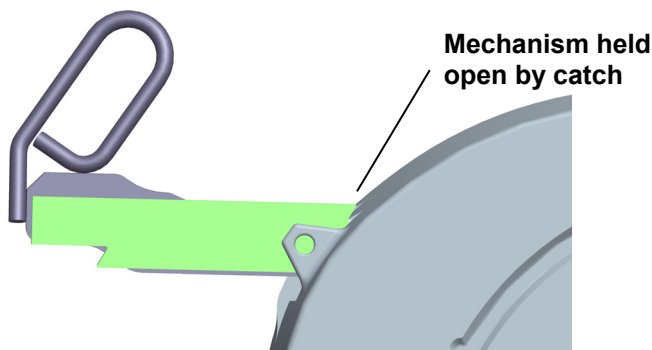

FIGURE 6
3. Depress the push button energizing air cylinder and hold for 5-10 seconds. The cylinder extends causing the release handle to unlock Fifth Wheel (see figure 6).
Note: The air cylinder will retract after releasing the push button and the mechanism will be held in the open position by a catch on the release handle until the kingpin is removed from the fifth wheel (see figure 6).